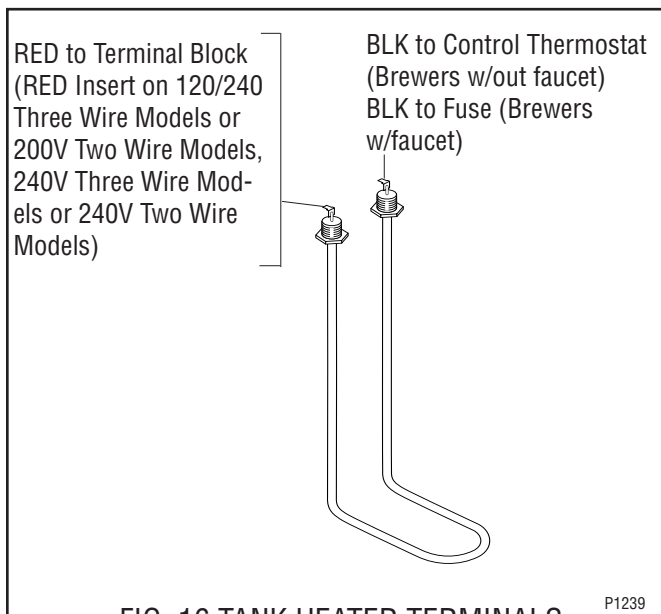

FIG. 16 TANK HEATER TERMINALS
- Install fill basin (4), secure with tank inlet fitting (2) and gasket (3). Insert water supply line (5) through grommet in fill basin (4).
- Refer to Fig. 16 when reconnecting the tank heater wires.